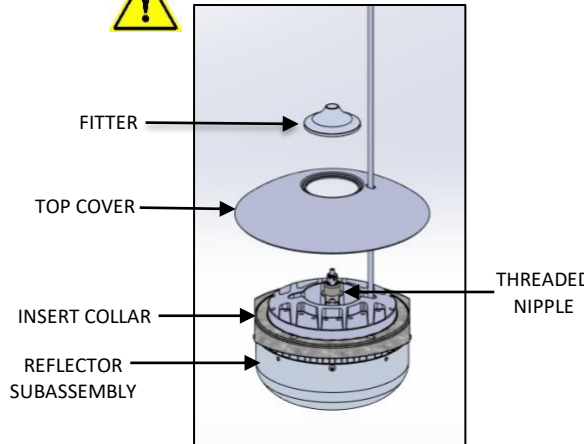

FIG. 15 – REFLECTOR DIS-ASSEMBLY
6. Unscrew the FITTER from THREADED NIPPLE and lift TOP COVER from the REFLECTOR ASSEMBLY as shown below in FIG. 15.